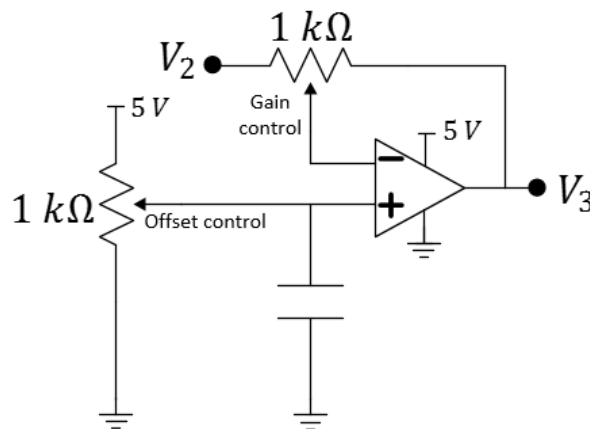

Figure 2: An (inverting) amplifier with gain and offset control.
Question 1: Record below the pinout for the LM358 chip and label the pin numbers on the Op Amp circuit schematic in Figure 2 as well.
Question 2: Draw circuit-schematic parts to the LM358 chip above to show how to construct the gain-and-offset amplifier shown in Figure 2.
- ✓ Build the circuit shown in Figure 2. Use any small capacitor ($0.1 \mu F$ is a good choice). The potentiometers may also be substituted with others up to $10 k\Omega$ in value. Set the potentiometers to **half their value** using an Ohmmeter as your starting point for adjusting.